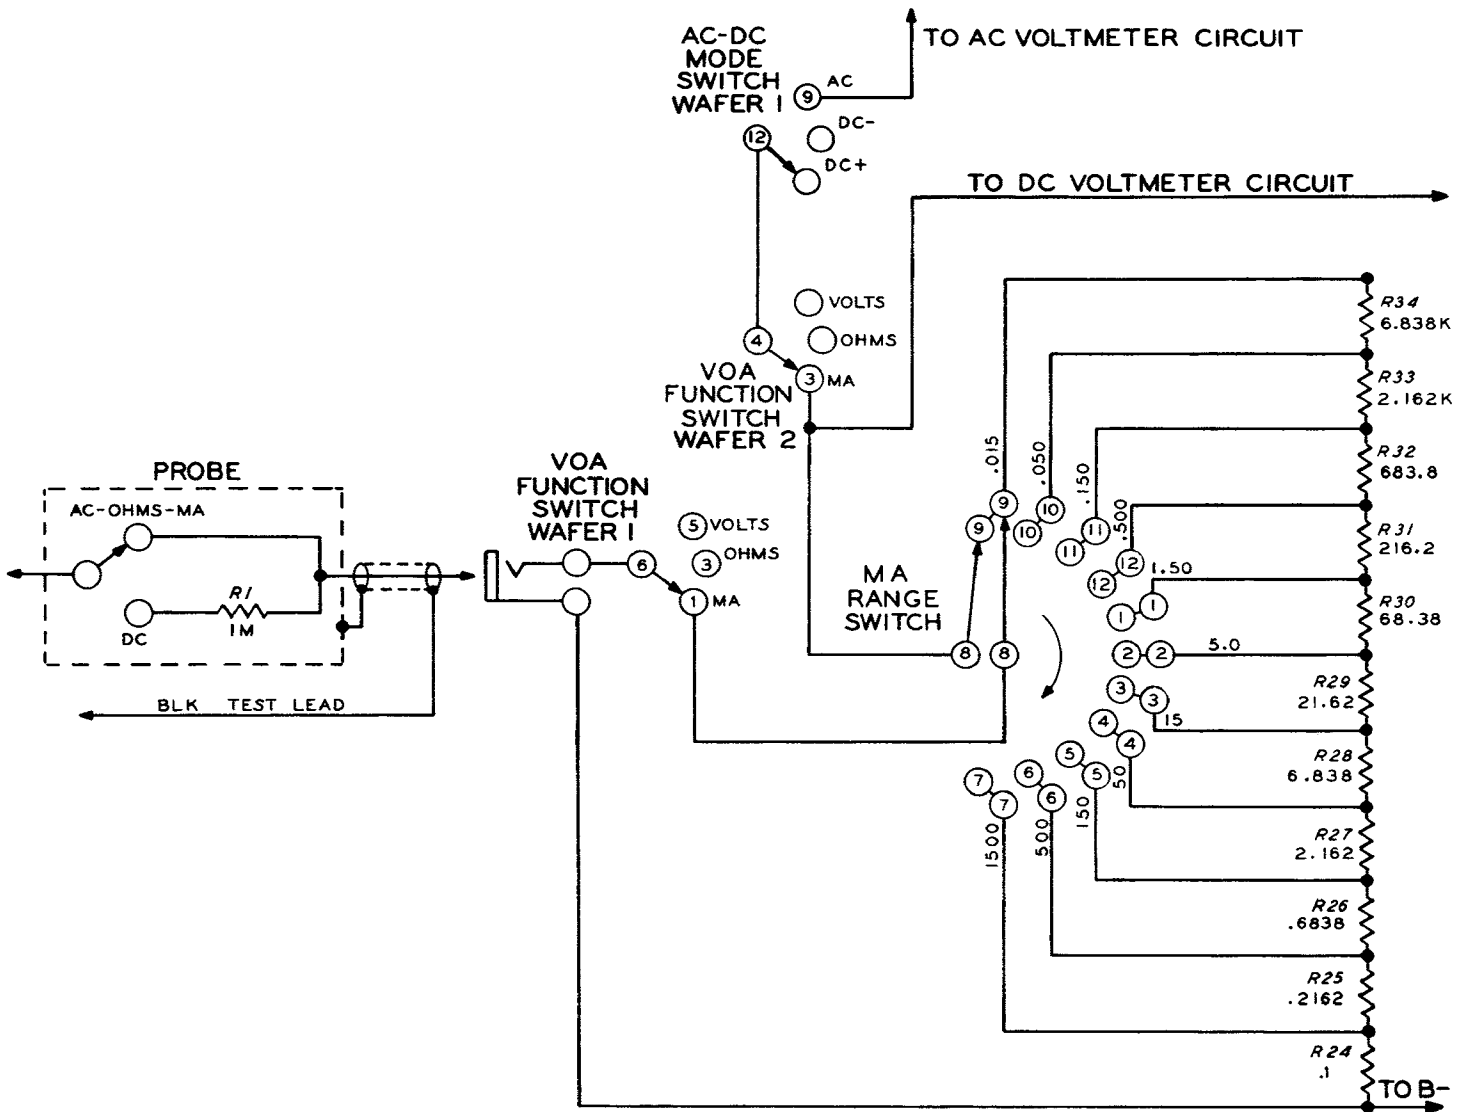

Figure 12
**Milliampere Input Circuit (Figure 12)**